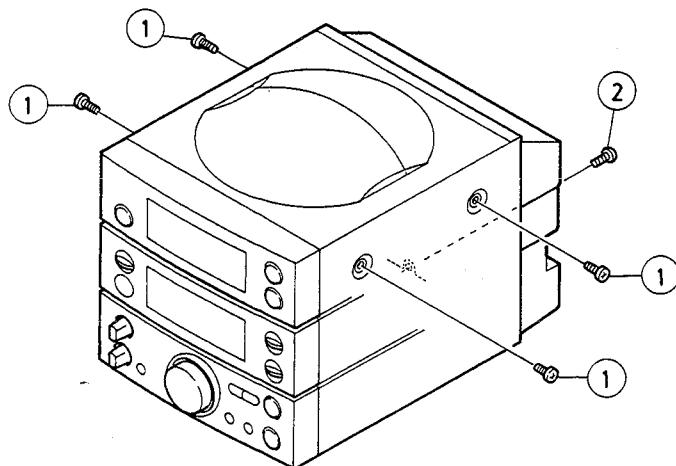

Fig. 7-1
1. Remove five screws ① and ② retaining the metal cover. (Fig. 7-1)